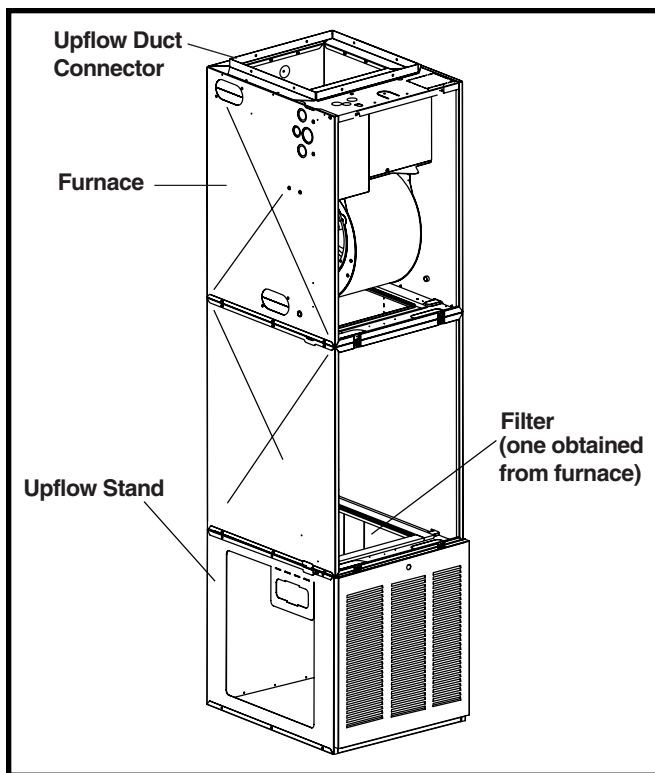

Figure 16. Over-the-Floor Return Air System with Upflow Stand
6. Use optional upflow duct connector or field supplied connector to attach furnace to overhead supply duct. See Figure 16.
5. Use field supplied connector to attach furnace to overhead supply duct. See Figure 16.